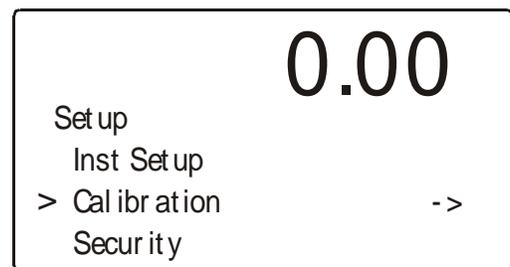

FIG. 2-2 SETUP MENU/SELECTING CALIBRATION
- Step 2. An alternative is to Press the Setup/3 button. The Setup Menu appears. (See Fig. 2-2)
- Step 3. Press the “-” button until the cursor is in front of “Calibration”. (See Fig. 2-2)